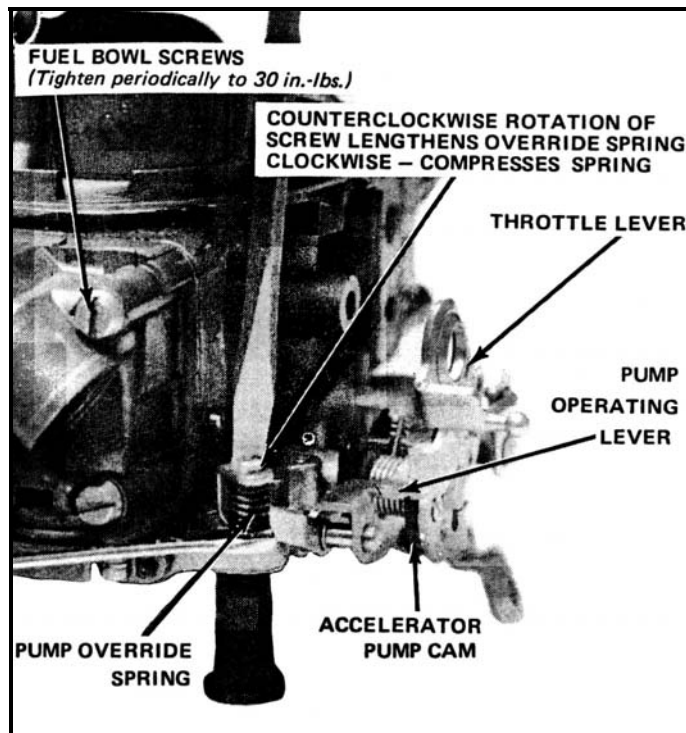

Figure 9
2. **Accelerator Pumps:** The "trick" to extracting peak performance from a "double pumper" is to get the pump shot delivered at the exact rate that is required by the engine. This rate is affected by the pump discharge nozzle size and the pump cam profiles. This carburetor has been calibrated for the most "typical" applications. Added performance can be obtained through "on the vehicle" testing. Necessary parts and tuning instructions are available in Holley TRICK kit P/N 37-910. In all cases, it is necessary that the slightest movement of the throttle lever results in movement of the pump operating lever. This is adjusted by compressing or relaxing the pump override spring as shown in Figure 9.